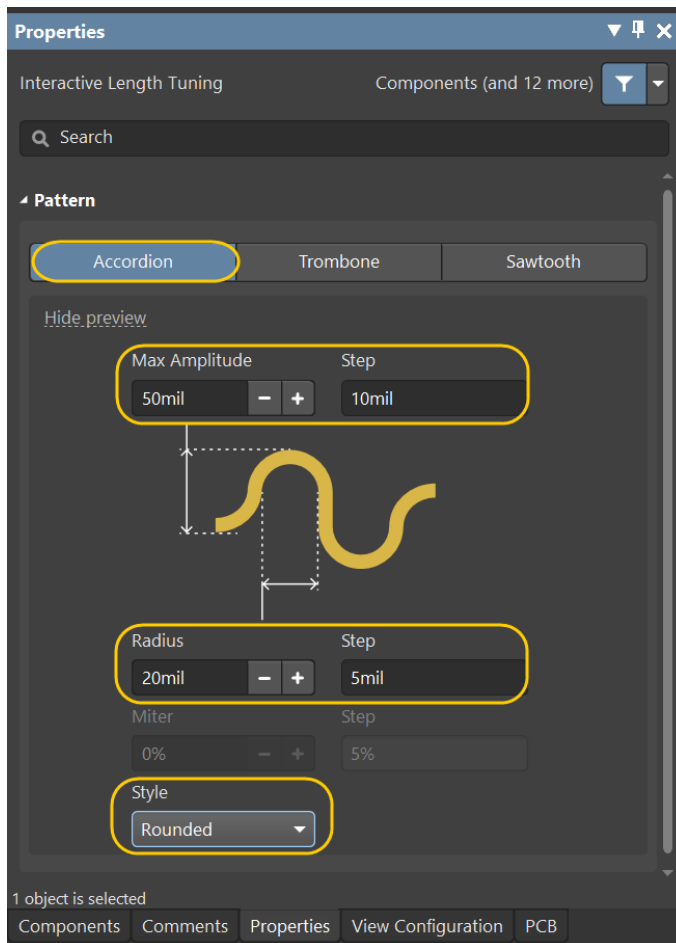

Figure 12. Accordion parameter for first length tuning
24. Using Figure 12 as a reference, as well as the instructions below, change the following values for the Length Tuning properties.